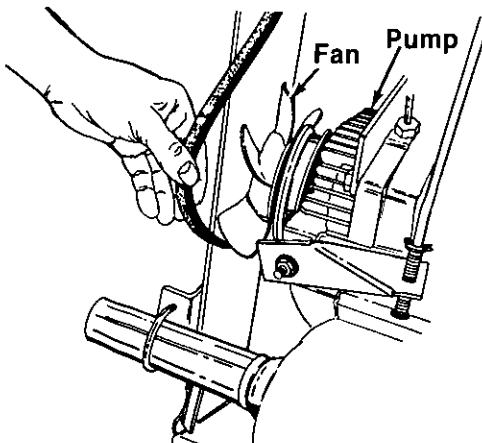

FIGURE 28.
6. Lift belt over pulley on hydrostatic pump. Turn fan at pump by hand to remove belt. See figure 28.